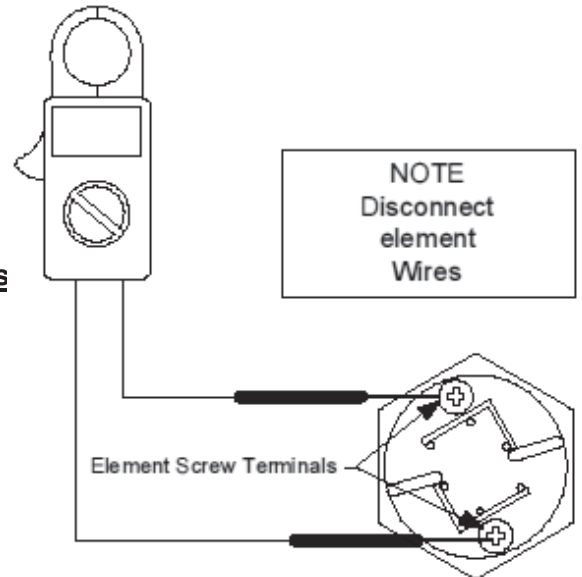

Figure 1
5. Touch probes of multi-meter to screw terminals of heating element (see Figure 1).